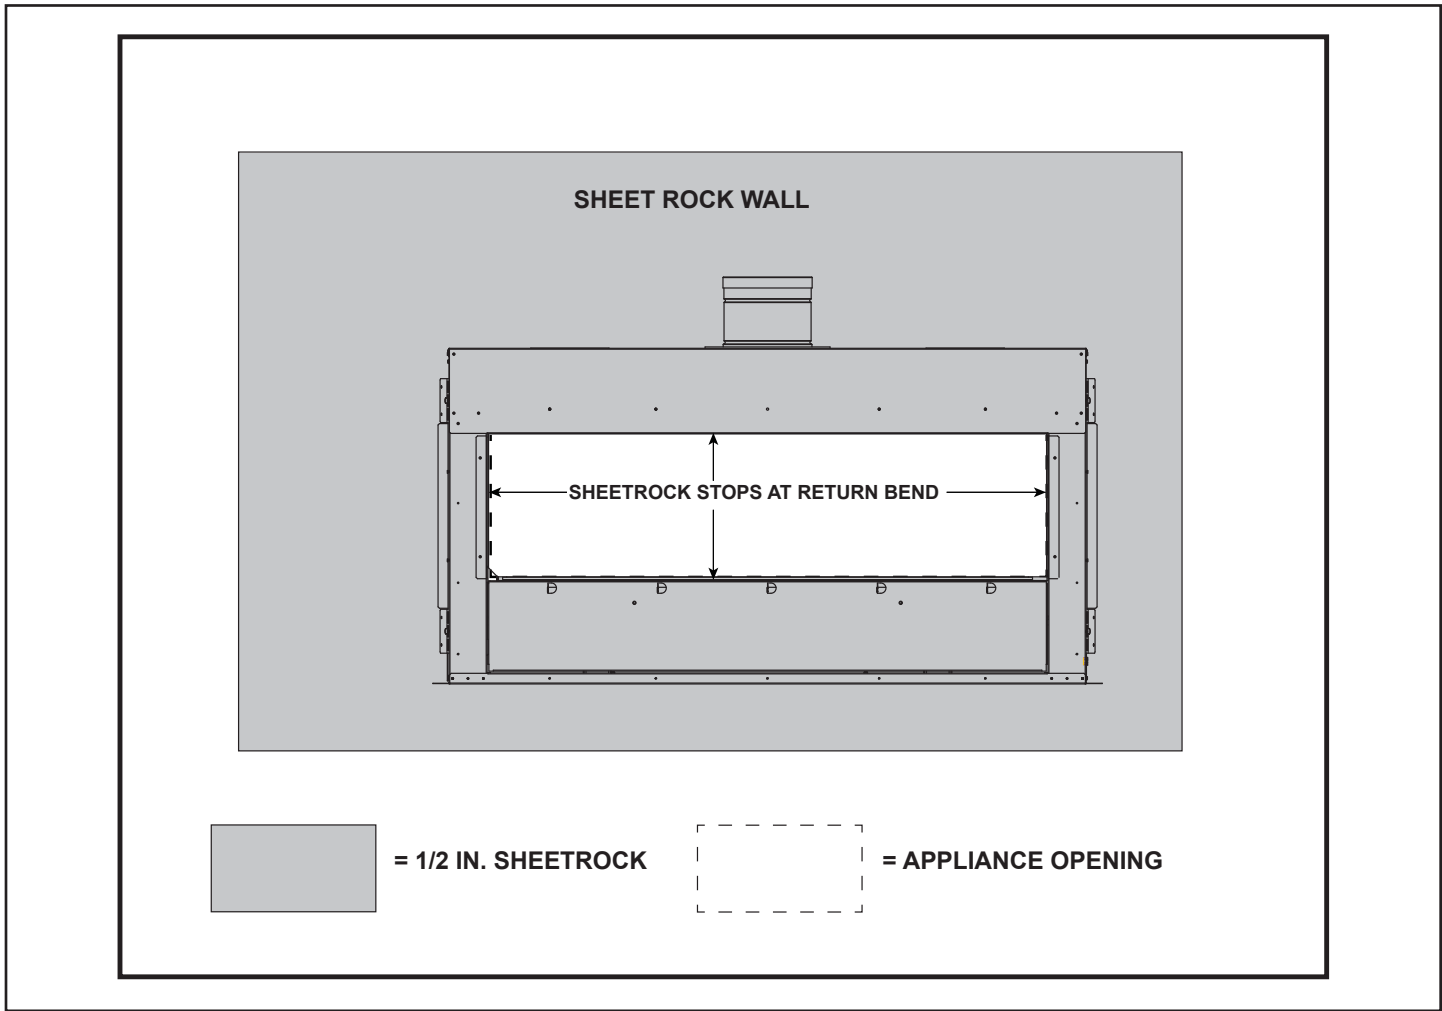
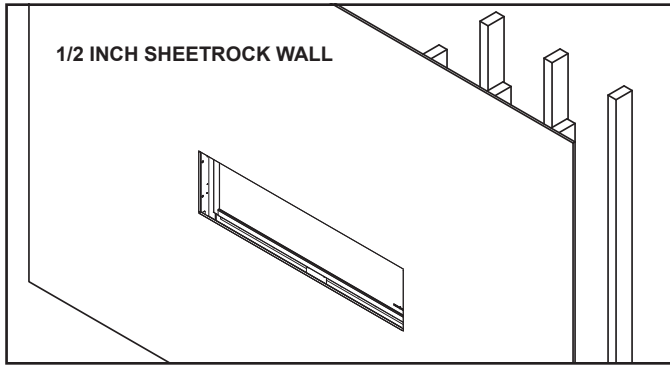

Figure 2. Sheetrock Detail for Both Finishing Methods
Figure 3.
- Facing and/or finishing materials must never overhang into the glass opening. See Figure 2.
1. Install 1/2 inch sheetrock on wall. Figure 3 shows the PRIMO installed. Sheetrock (1/2 inch) has been installed up to the top, bottom and sides of appliance opening as shown in Figure 2 and 3. See the appliance installation manual for more details regarding facing material.